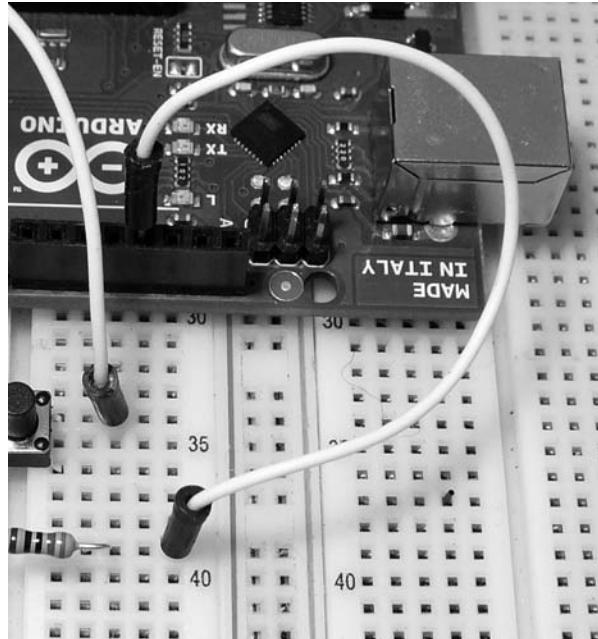

Figure 4-25: Connecting the LED branch to the Arduino
6. Connect a wire from the right side of the $560\ \Omega$ resistor to Arduino digital pin 12, as shown in Figure 4-25.